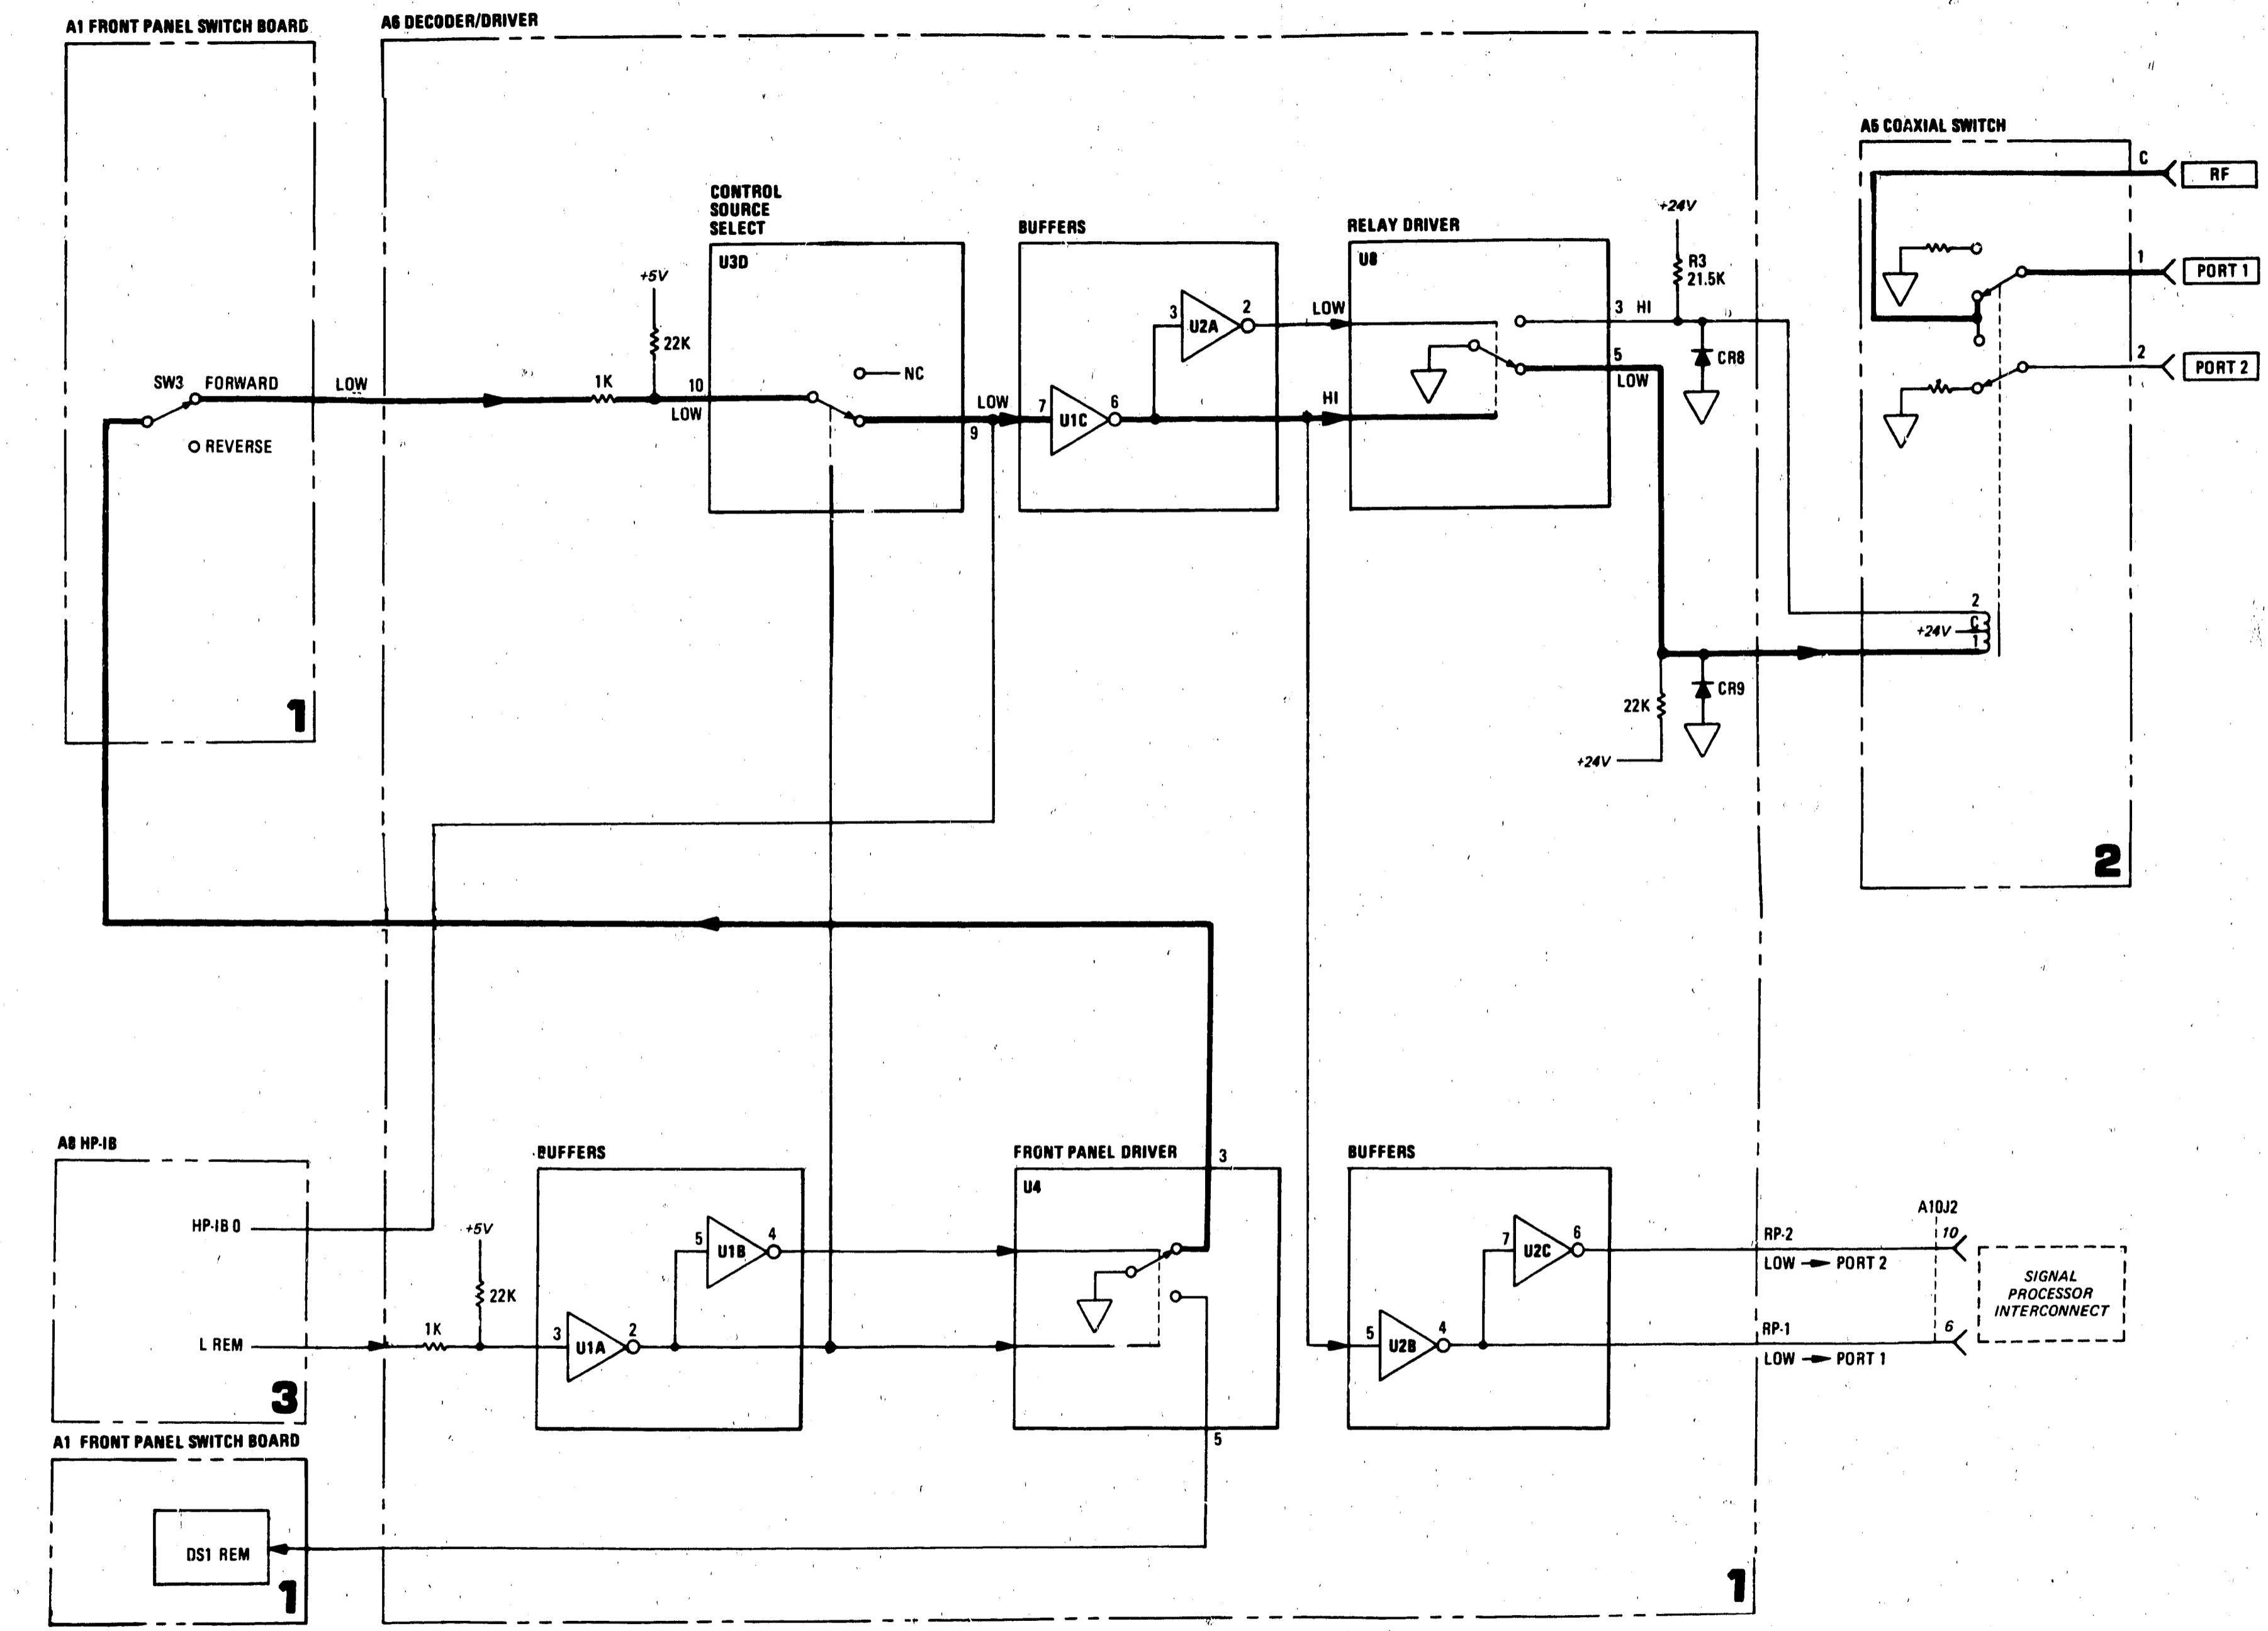

Figure 8-4. Switch Control and Front Panel Indicator Troubleshooting Block Diagram
- b. With 8503B front-panel S-PARAMETER SELECT switch in the FORWARD position and 8503B in LOCAL mode, check for proper indications as shown in Figure 8-4.
- c. Set front-panel S-PARAMETER SELECT Switch to REVERSE and check for proper indications (all LOW's shown in Figure 8-4 should now be HI and all HI's should be LOW).